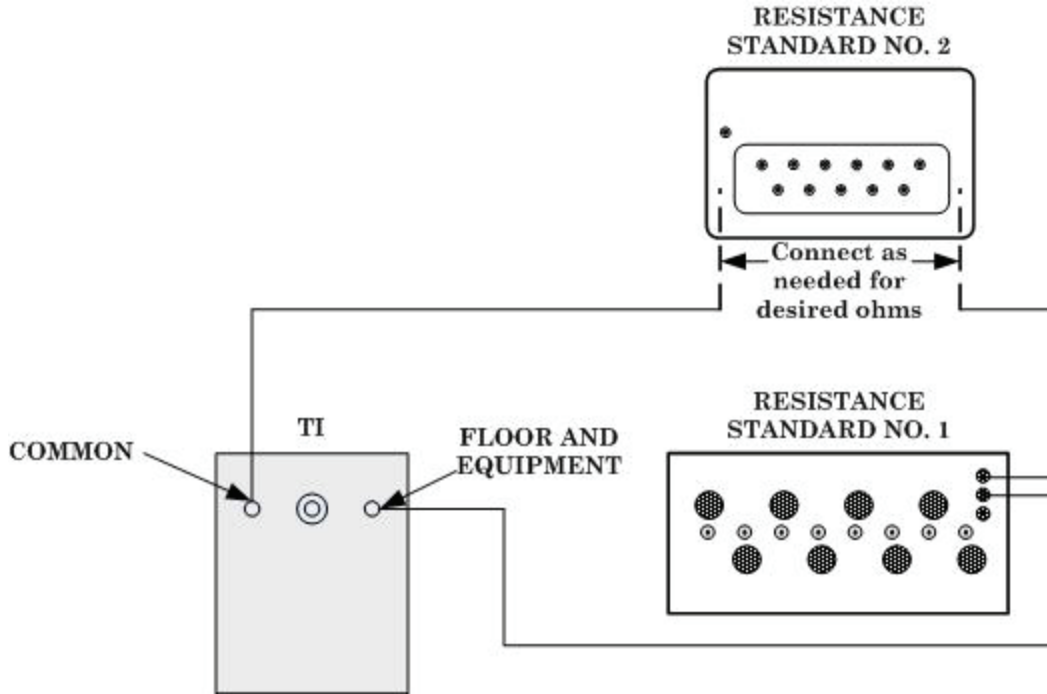

Figure 2. Performance check setup for 1 megohm and greater (floor and equipment).
- (6) Remove test leads from resistance standard no. 1.
- (7) Short **COMMON** and **FLOOR AND EQUIPMENT** terminals on TI.
- (8) Push **PRESS TO TEST** button on TI and zero the meter. Release button.
- (9) Remove shorting lead from TI.
- (10) Connect equipment as shown in figure 2 for calibration of TI at 1 megohm and greater.